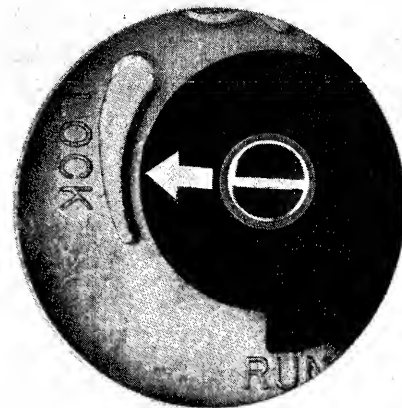

FIGURE 2-3
- 8) Unlock the actuator by rotating the actuator lock counter clockwise as far as it will go (approximately 1/2 turn). The embossed arrow will now point to RUN (see Figure 2-3.) DO NOT FORCE.